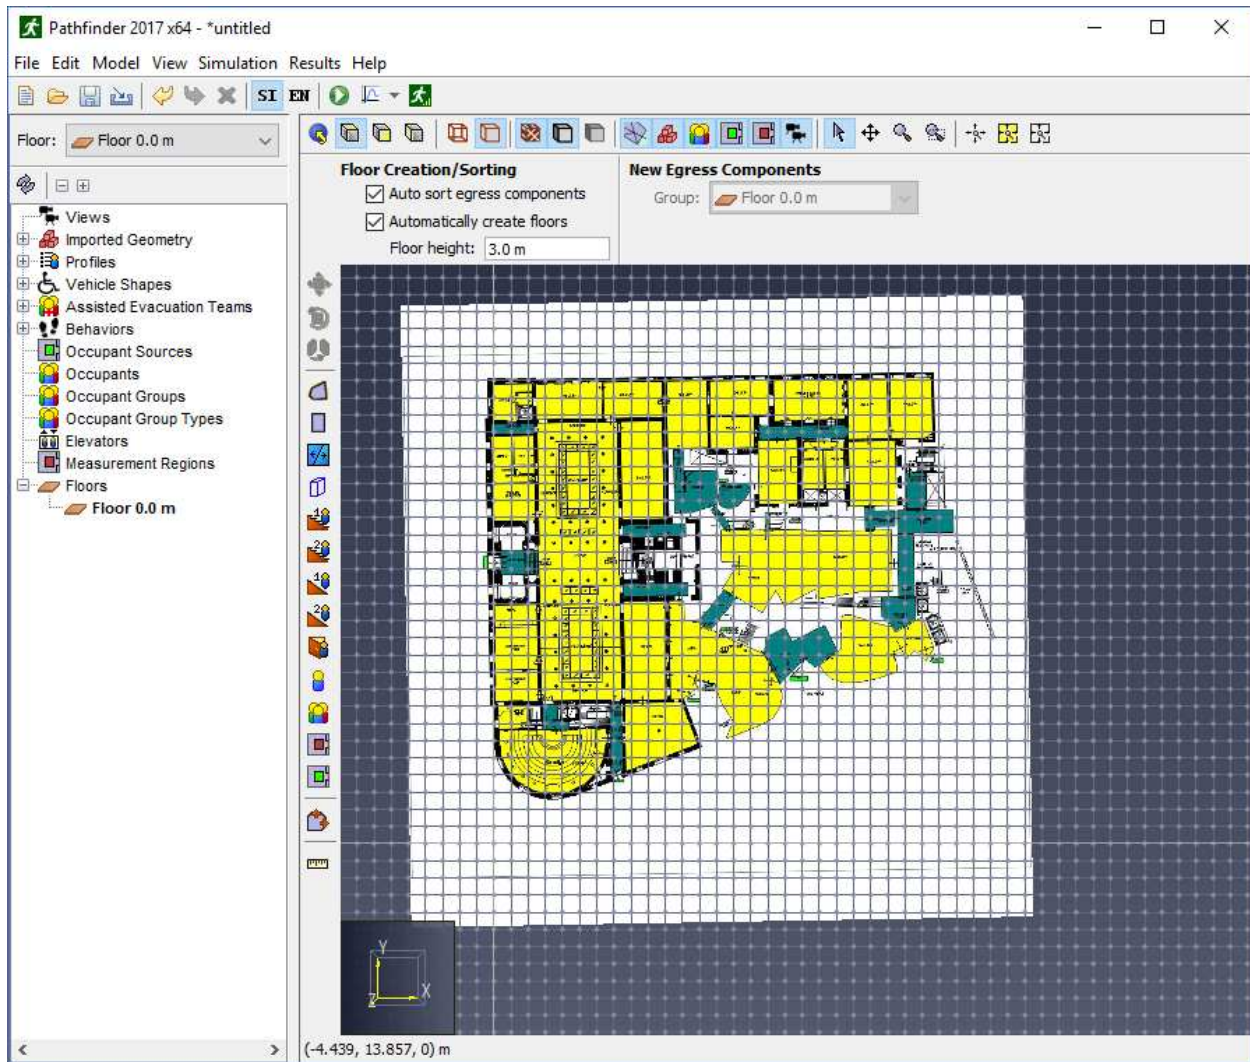

Figure 78. Background image added to the model.
5. Click **OK** and the image will be placed in the model as specified (Figure 78).